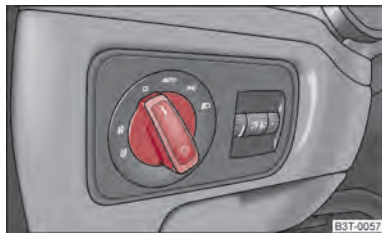

Fig. 34 Dash panel: Light switch
- Turn the light switch $\Rightarrow$ fig. 34 into position $\Rightarrow$.
On models fitted with **right-hand steering** the position of certain switches differs from that shown in $\Rightarrow$ fig. 34. The symbols which mark the switch positions are identical, however.